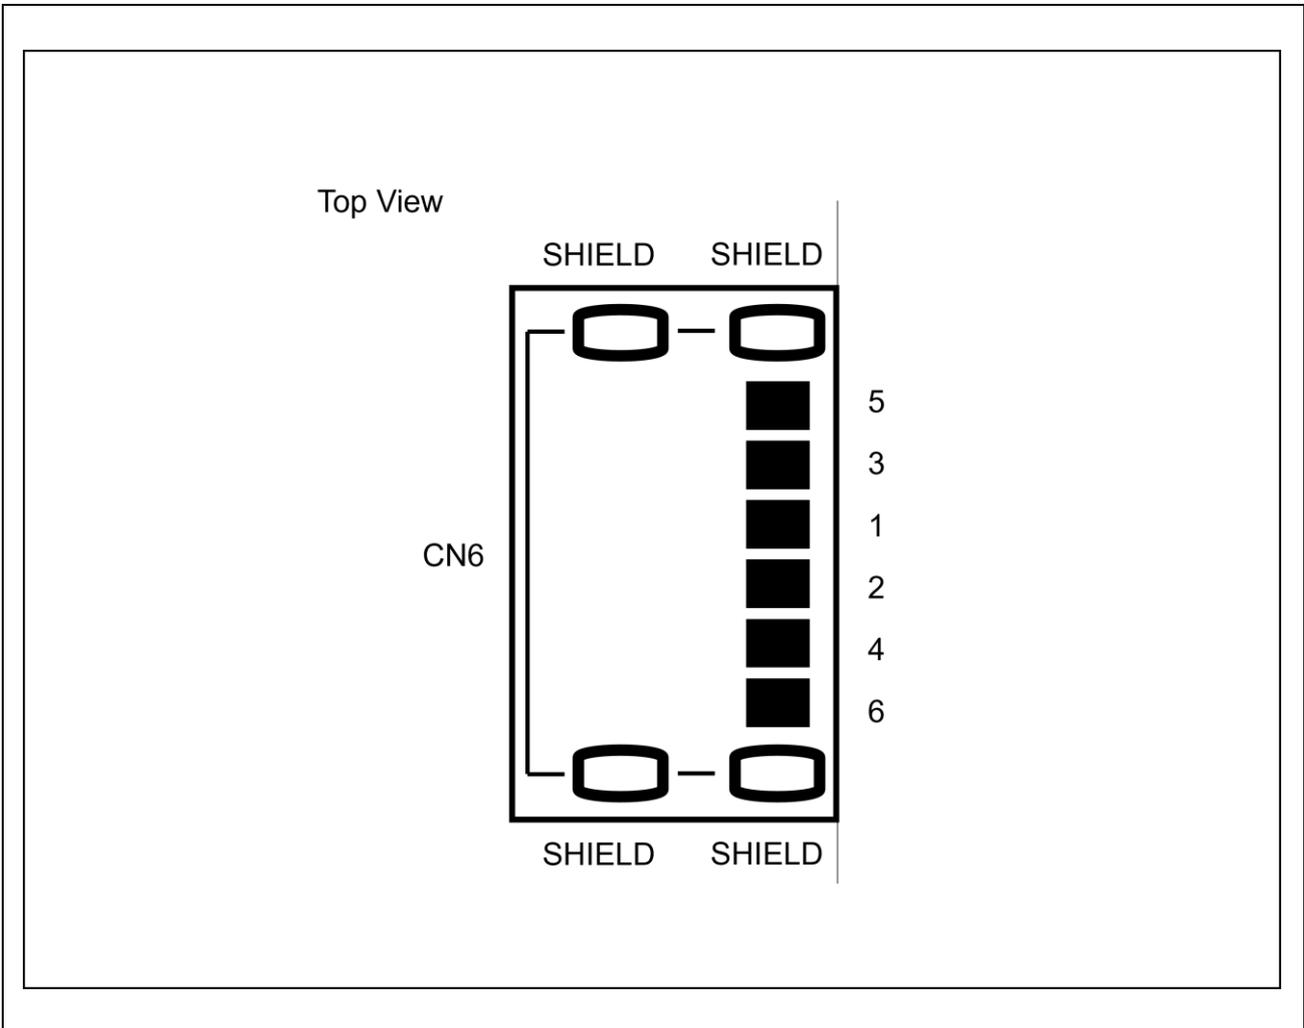

Figure 3.5 USB Type-C Receptacle (CN6) Pin Layout Diagram
**Figure 3.5** illustrates the layout of USB Type-C Receptacle pins. **Table 3.4** shows the assignment of USB Type-C Receptacle pins.